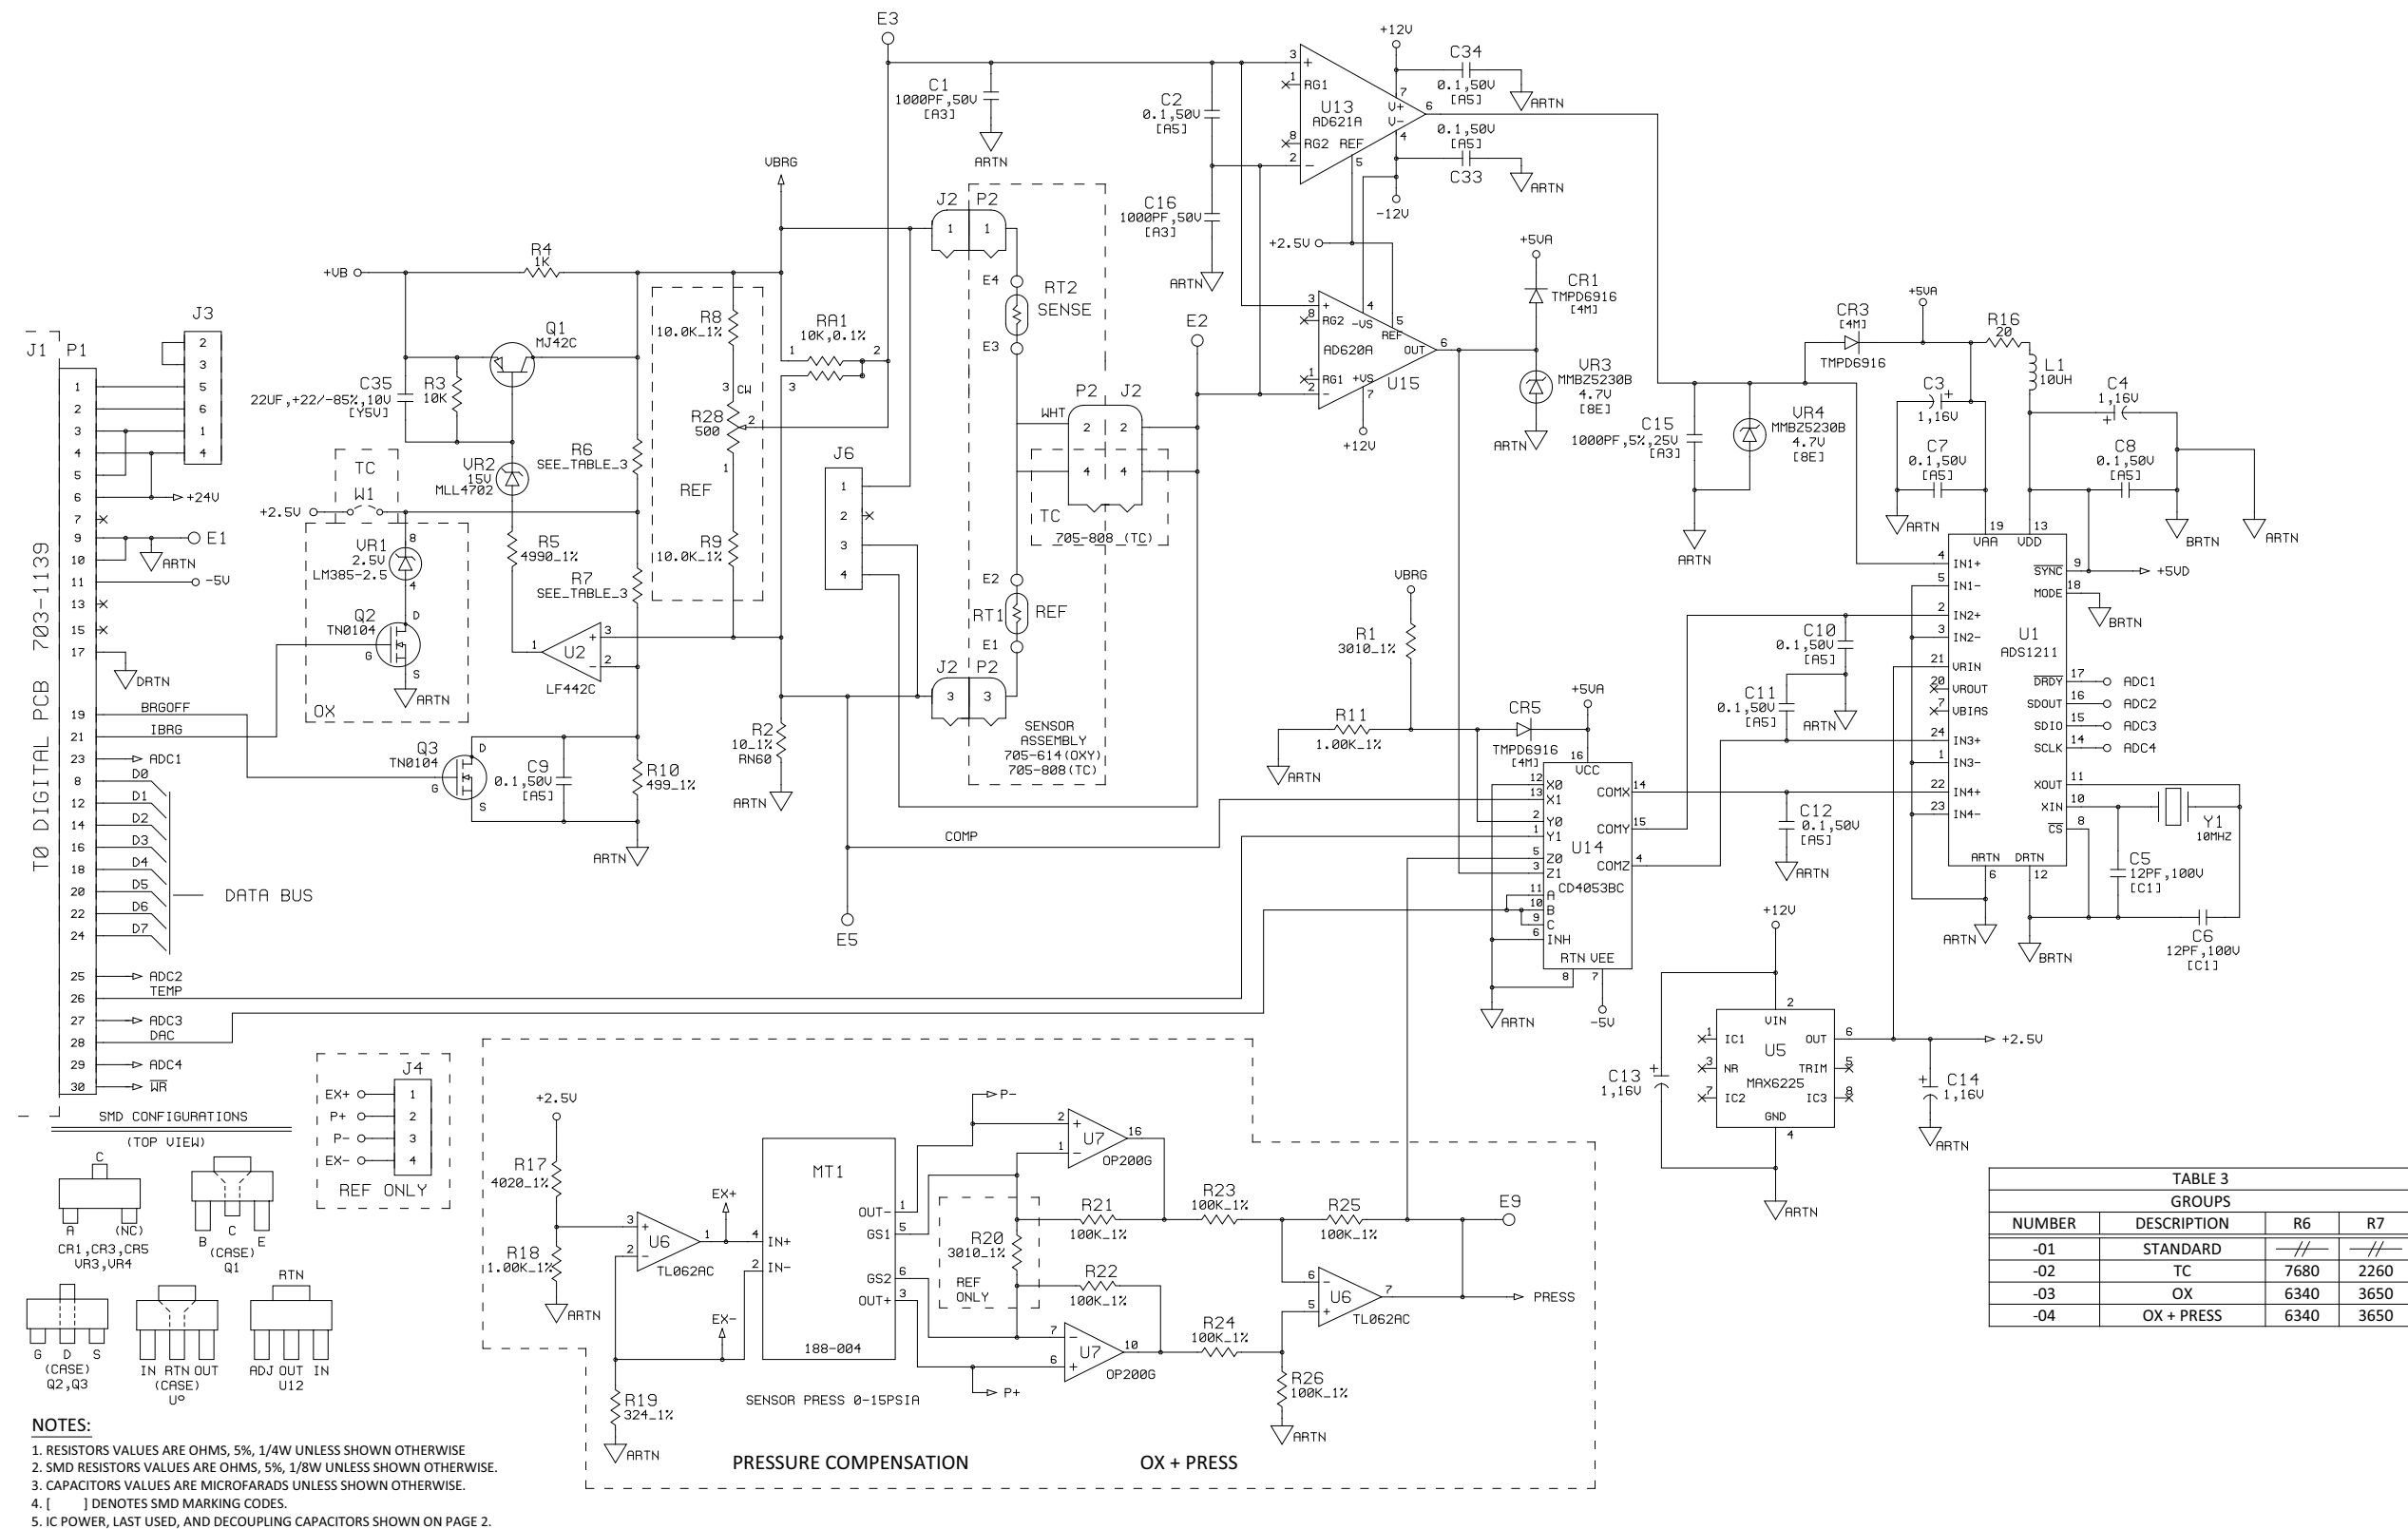

Figure 63: Analog PCB Schematic (ref. 700-1276, Rev. F, SH1)
- Figure 63, "Analog PCB Schematic (ref. 700-1276, Rev. F, SH1)," on page 74